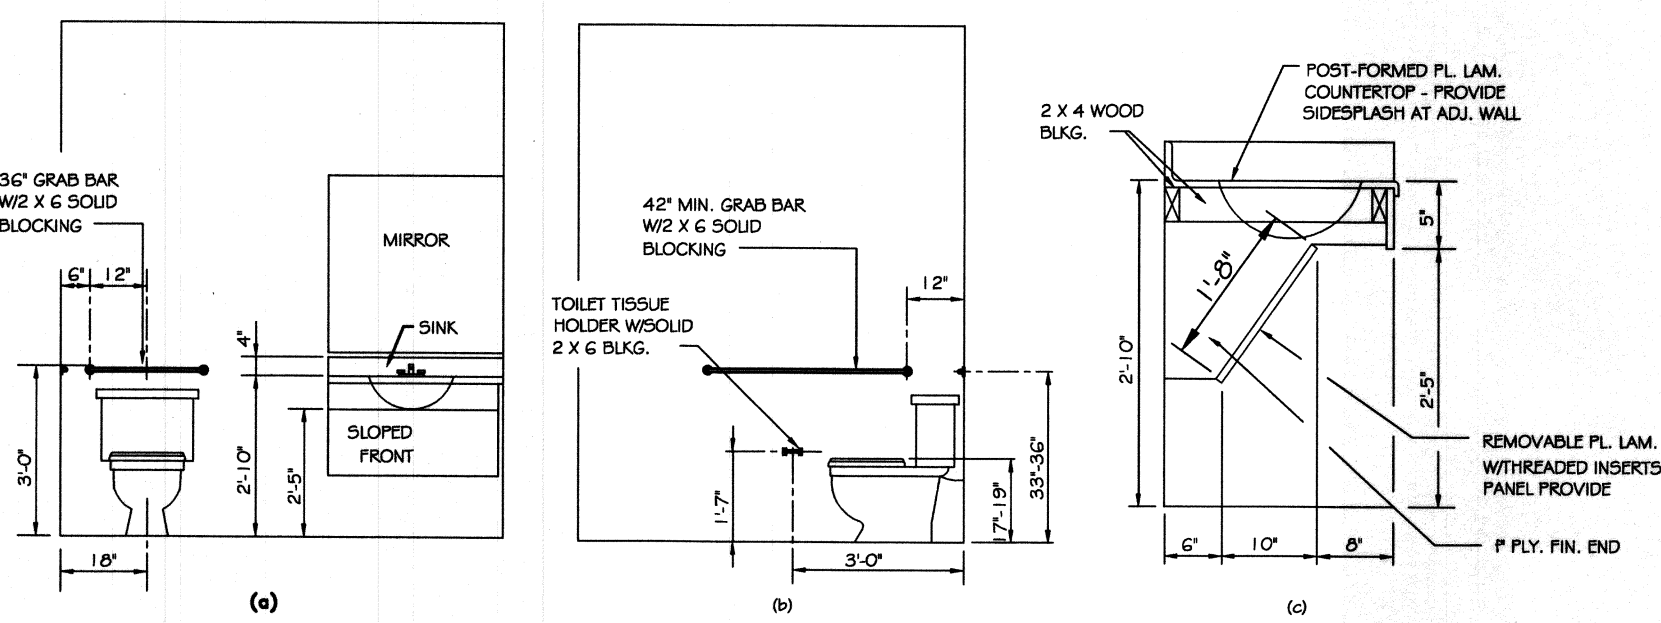

FIG. 31
- 4.16.3 HEIGHT. THE HEIGHT OF WATER CLOSETS SHALL BE 17" TO 19" (430mm TO 485mm), MEASURED TO THE TOP OF THE TOILET SEAT. SEATS SHALL NOT BE SPRUNG TO RETURN TO A LIFTED POSITION (SEE FIG. 31).
- 4.16.4 GRAB BARS. GRAB BARS FOR WATER CLOSETS NOT LOCATED IN STALL SHALL COMPLY WITH 4.26 AND FIG. 31. THE GRAB BAR BEHIND THE WATER CLOSET SHALL BE 36" (915mm) MINIMUM.
- 4.16.6 DISPENSERS. TOILET PAPER DISPENSERS SHALL BE INSTALLED WITHIN REACH, AS SHOWN IN FIG. 31. DISPENSERS THAT CONTROL, DELIVER, OR THAT DO NOT PERMIT CONTINUOUS PAPER FLOW, SHALL NOT BE USED.
- 4.17.6 GRAB BARS. GRAB BARS MAY BE MOUNTED WITH ANY DESIRED METHOD AS LONG AS THEY HAVE A GRIPPING SURFACE AT THE LOCATIONS SHOWN IN FIG. 31 AND DO NOT OBSTRUCT THE REQUIRED CLEAR FLOOR AREA. GRAB BARS SHALL COMPLY WITH 4.26.
- 4.19.2 HEIGHT & CLEARANCES. LAVATORIES SHALL BE MOUNTED WITH THE RIM OR COUNTER SURFACE NO HIGHER THAN 34" (865mm) ABOVE THE FINISH FLOOR. PROVIDE A CLEARANCE OF AT LEAST 29" (735mm) ABOVE THE FINISH FLOOR TO THE BOTTOM OF THE ARJON (SEE FIG. 31).
- 4.19.6 MIRRORS. MIRRORS SHALL BE MOUNTED WITH THE BOTTOM EDGE OF THE REFLECTING SURFACE NO HIGHER THAN 40" (1015mm) ABOVE THE FINISH FLOOR (SEE FIG. 31).
- 4.24.2 HEIGHT. SINKS SHALL BE MOUNTED WITH THE COUNTER OR RIM NO HIGHER THAN 34" (865mm) FROM THE FINISHED FLOOR (SEE FIG. 31).